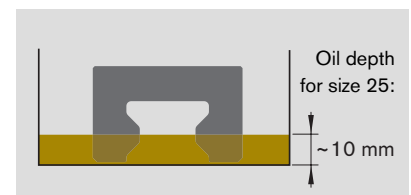

Fig. 2
25	See Fig. 2
- For size 25: Stand the front lube units in oil 10 mm deep for approx. 36 hours (see Fig. 2).